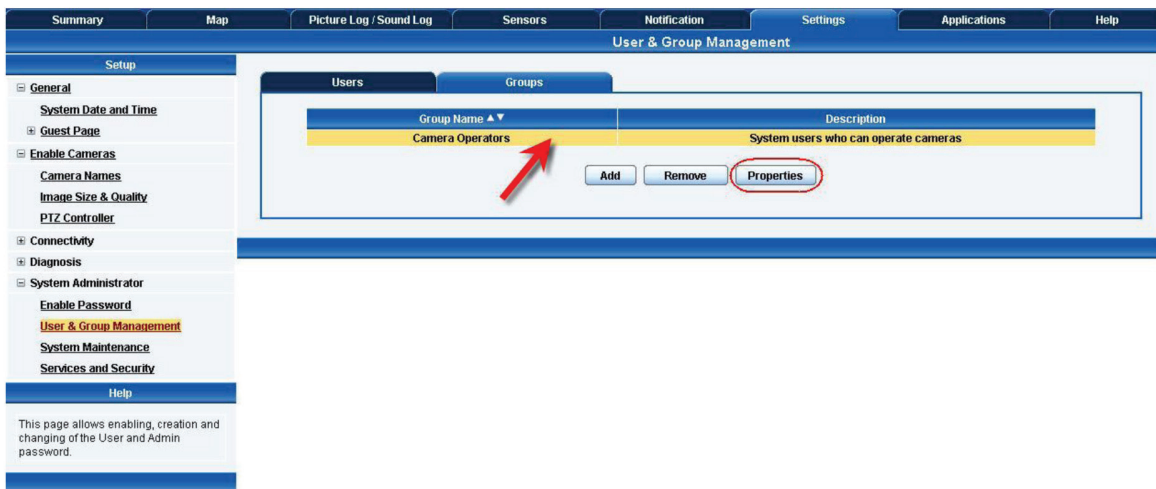

Figure 3-19. User setup screen.
1. Click on the “Users” tab and then click the “Add” button to add the new users to your groups as shown in Figure 3-19.